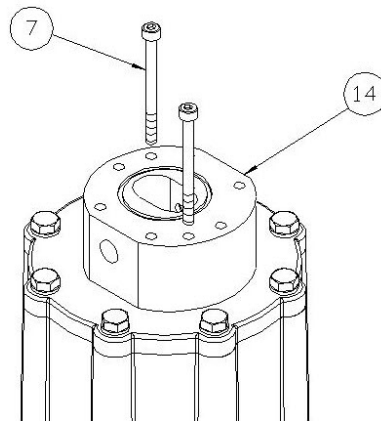

Figure 12 – Non-metallic
8. Secure the center housing using two bolts in holes as shown in Figure 12. Tighten these bolts to the torque specified in **Section 19.2**. Always tighten fasteners in a progressive “crisscross” pattern.